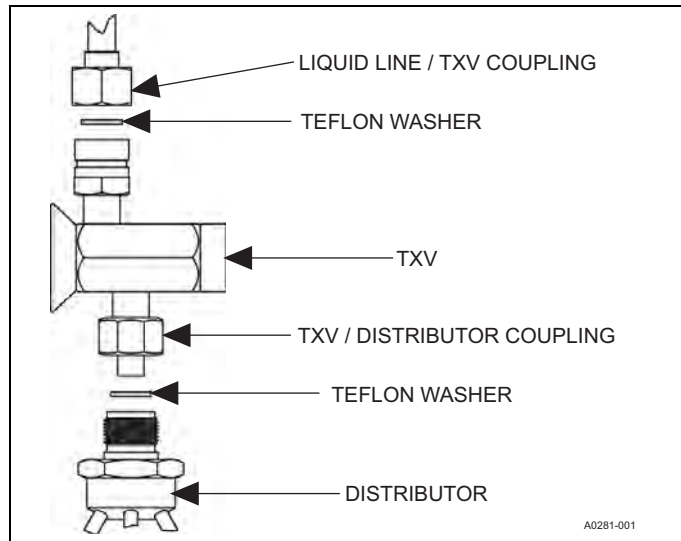

FIGURE 6: TXV Installation
4. Install the thermal expansion valve to the distributor assembly with supplied fittings. Ensure teflon washer is seated in distributor. Hand tighten and turn an additional 1/4 turn to seal. Do not overtighten fittings. See Figure 6.